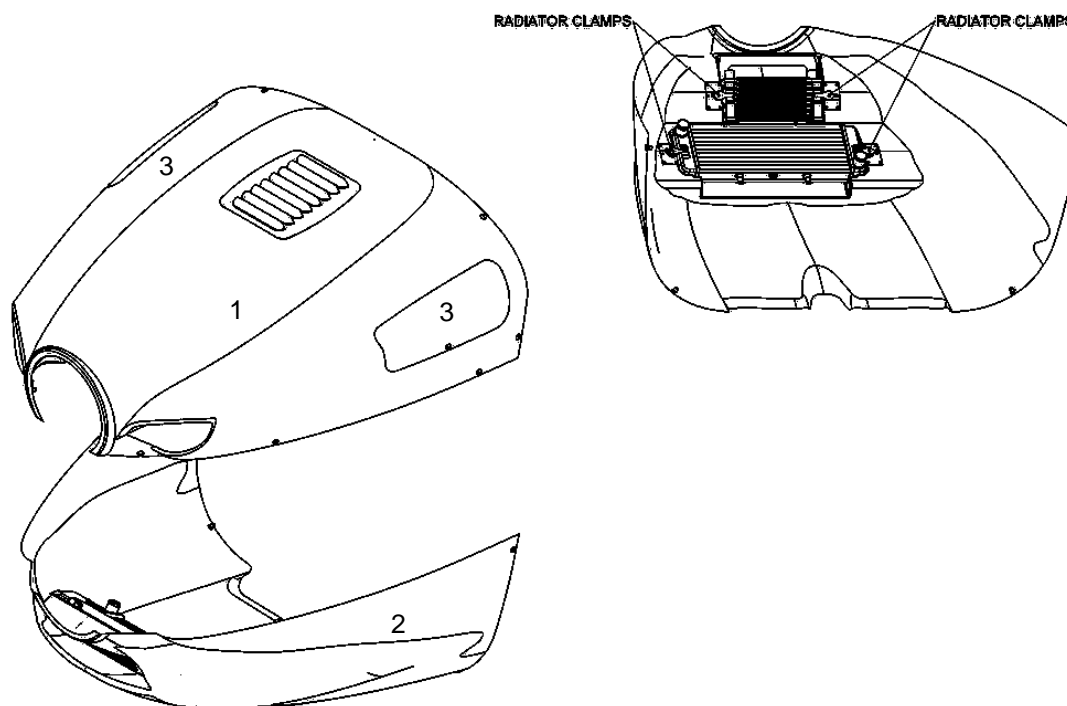

Figure 48: Engine cowling.
Refer to Figure 48. The engine cowling is made up of moulded fibreglass upper (1) and lower (2) parts. Inspection panels (3) are located on the top cowling and are secured down by two Dzus fasteners. The cowling houses the engine, air filter, coolant radiator, oil radiator and oil reservoir. Air to the air filter is provided through the right-side intake. Circulation over the engine is provided by the front nose intakes. Additional circulatory air is supplied through the coolant and oil radiators. The outflow area is on the underside of the cowling, by the firewall.
2. Disconnect the air filter supply pipe (1) from the cowl inlet (2) by loosening the clamp (3) securing it to the inlet.
4. Release the four catches (4), one on each side of the coolant (5) and oil radiators (6). Also refer to Figure 48.